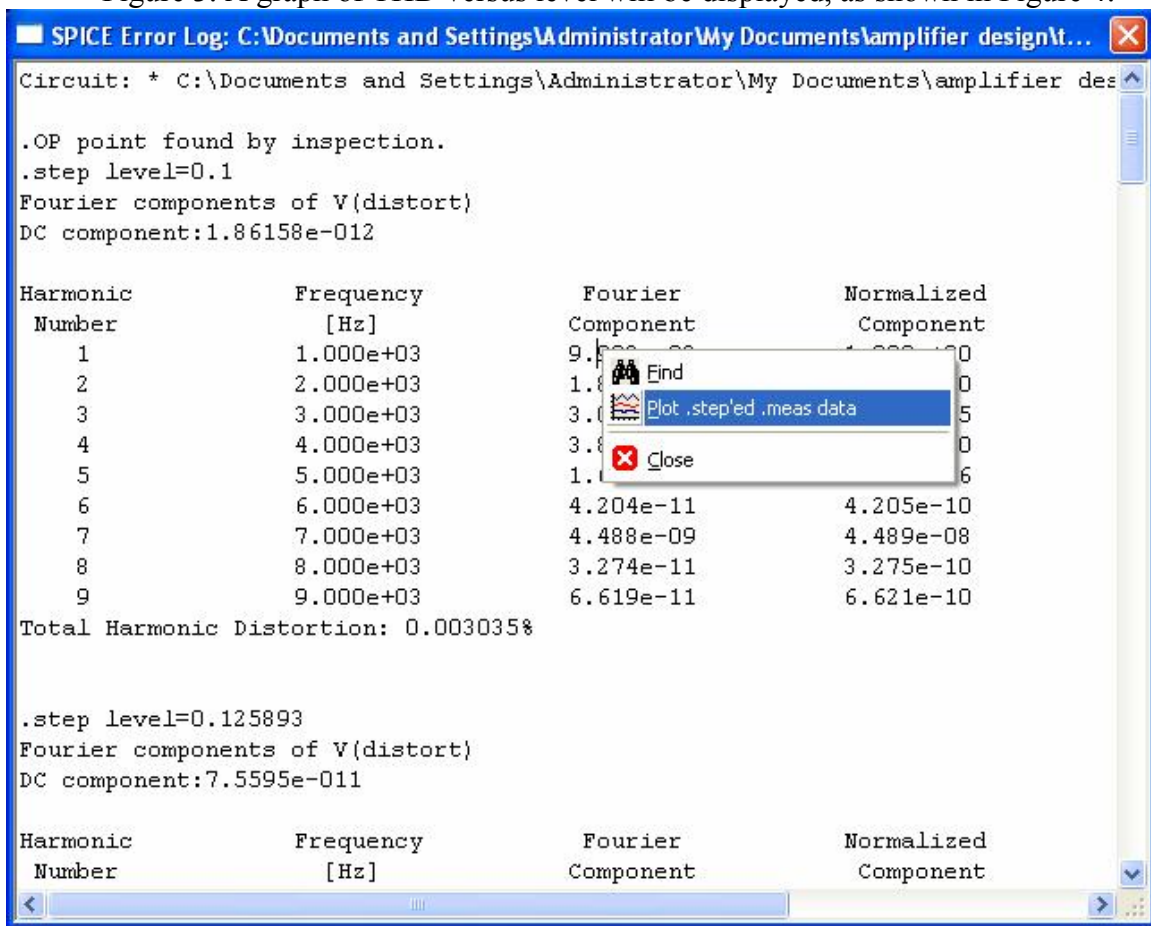
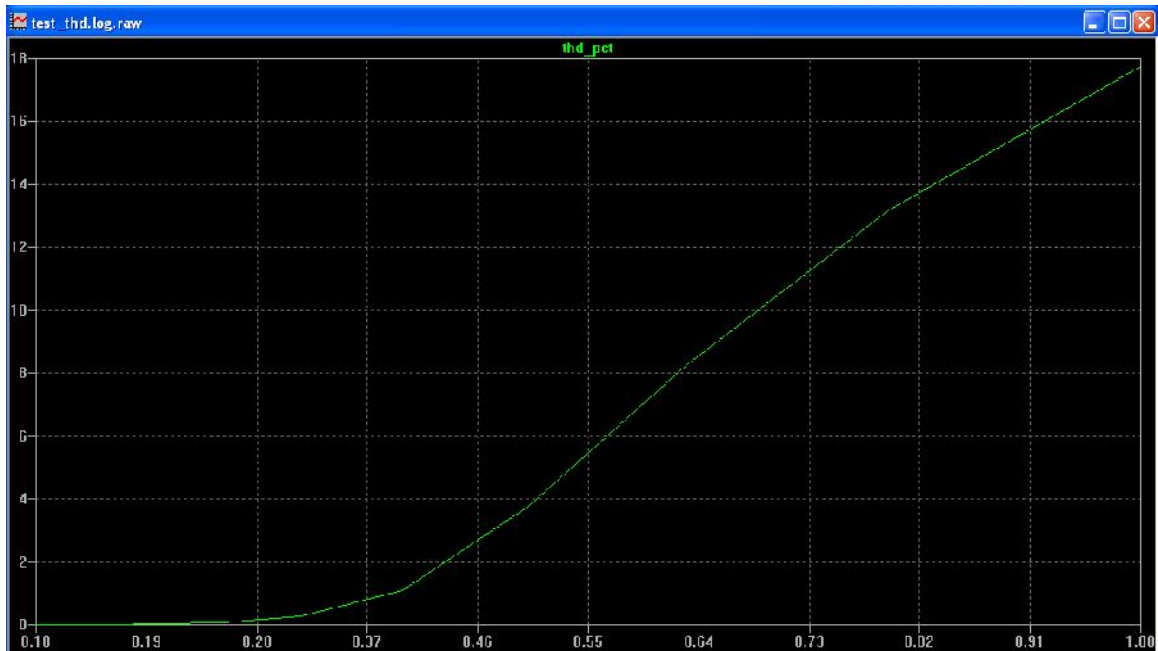

Figure 3- causing the plot to be made
Figure 4 – THD in percent (vertical axis) versus input level (horizontal axis)
2. Move the cursor *over* the now opened Spice Error Log File. *Right click* the mouse, then *left click* the mouse to select “Plot .step’ed .meas data” as shown in Figure 3. A graph of THD versus level will be displayed, as shown in Figure 4.